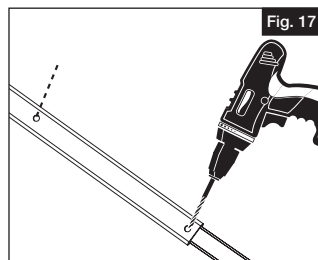

Fig. 17
- Pre-drill through the two provided brace holes with $\frac{1}{8}$ " drill bit. Then, secure brace together at the measured length with provided #8 x $\frac{3}{8}$ " blunt end screws (2) in the center of the brace (Fig. 17).